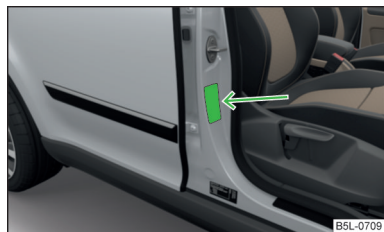

Fig. 15
- On the B-column on the front passenger side » Fig. 15. The sticker is visible upon opening the front passenger door.